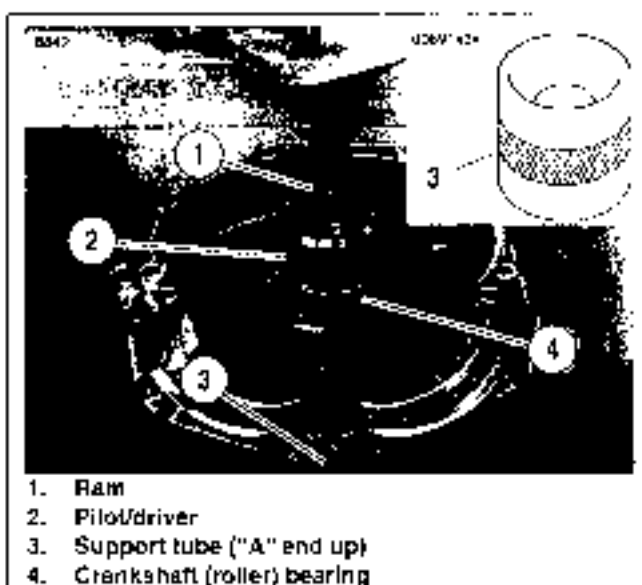

Figure 3-161. Left Crankshaft (Roller) Bearing Installation
2. See Figure 3-161. Obtain new crankshaft (roller) bearing (3). Spread a thin film of clean engine oil on C.D. of new bearing.
3. Place support tube (3) on hydraulic press table with the "A" end up.
6. Slide pilot/driver (2) through bearing into support tube.
7. Center pilot/driver (2) under ram (1) of press. Apply pressure to pilot/driver until bearing is lightly bottomed in crankshaft bearing bore.